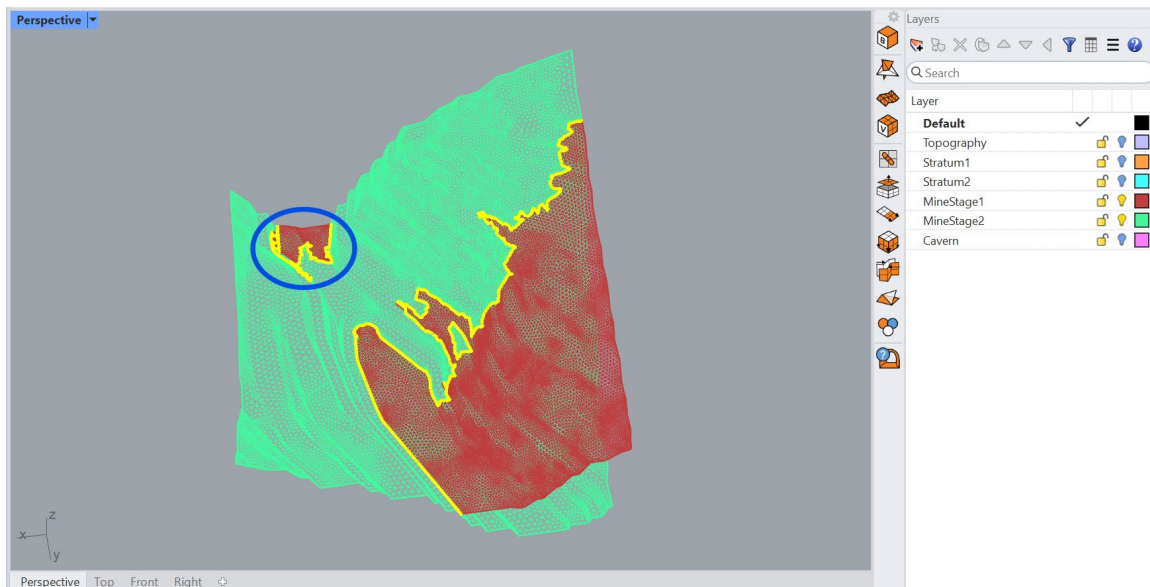

Figure 94: “MineStage2” mesh collapsed on “MineStage1” forming 3 distinct intersection curves (Wireframe view).
After **GCollapse** completes, select both meshes and use *Rhino*’s command **_MeshIntersect** to create polylines tracing the complete intersections between the meshes. The command should report that it created 3 to 4 intersections. They are highlighted in yellow in Figure 94.
10. The intersection of “MineStage1” and “MineStage2” meshes creates two volumes between them – the large one in front as on Figure 94 and the small one in the back (circled in blue). It is assumed that the main goal of this model is to assess the stability of the large portion of the pit wall and the rock bridge between the cavern and the pit, therefore the small volume in the back can be ignored as it is far enough from the cavern and does not form large-size walls.